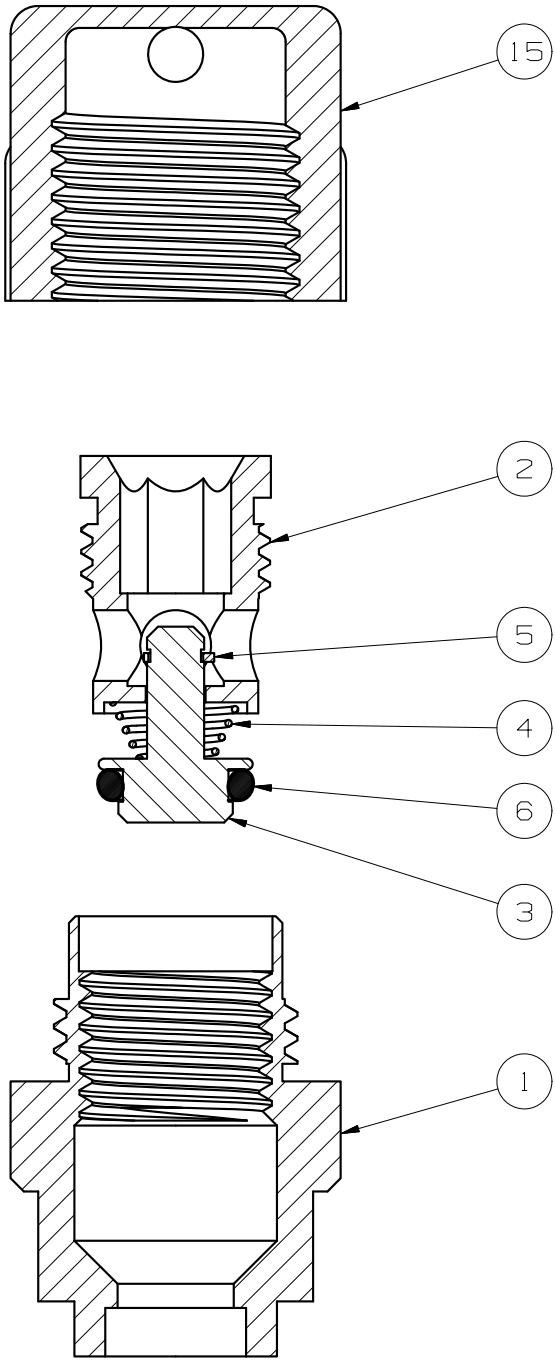

Figure 2 – Standard SV3 – 1/4" & 3/8"
| FIGURE 2 - STANDARD SV3 - 1/4" & 3/8" | 6 |
On the ¼" and ⅜" models of the SV3 seal-off valve, there is a plastic cap instead of a stainless steel relief cap seen in Figure 2. Unscrew the cap (15) to expose the valve body assembly.